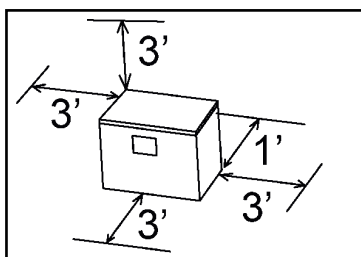

Figure 4. Compressor Unit Clearance
- Clearance around the unit for service is illustrated in Figure 4. However, local codes and applicable regulations take precedence.
- SD(A) Compressor Unit must be placed in an environment in which the surrounding air temperature does not drop below 40°F.